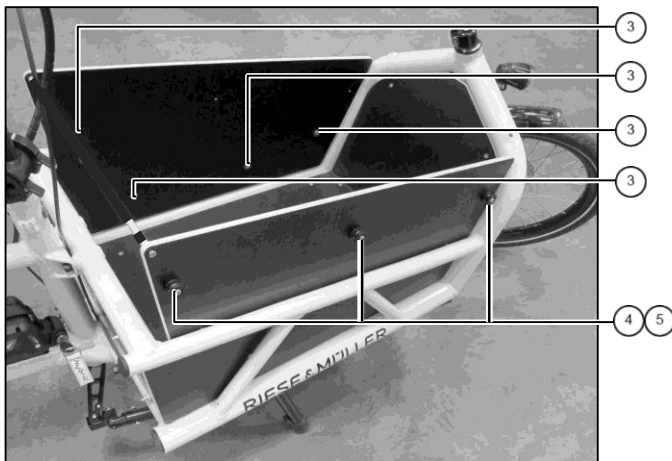

Fig. 1: mounted side walls
1. Stick countersunk screws **5** into knobs **4** and turn screws into the side walls as shown in fig. 1.